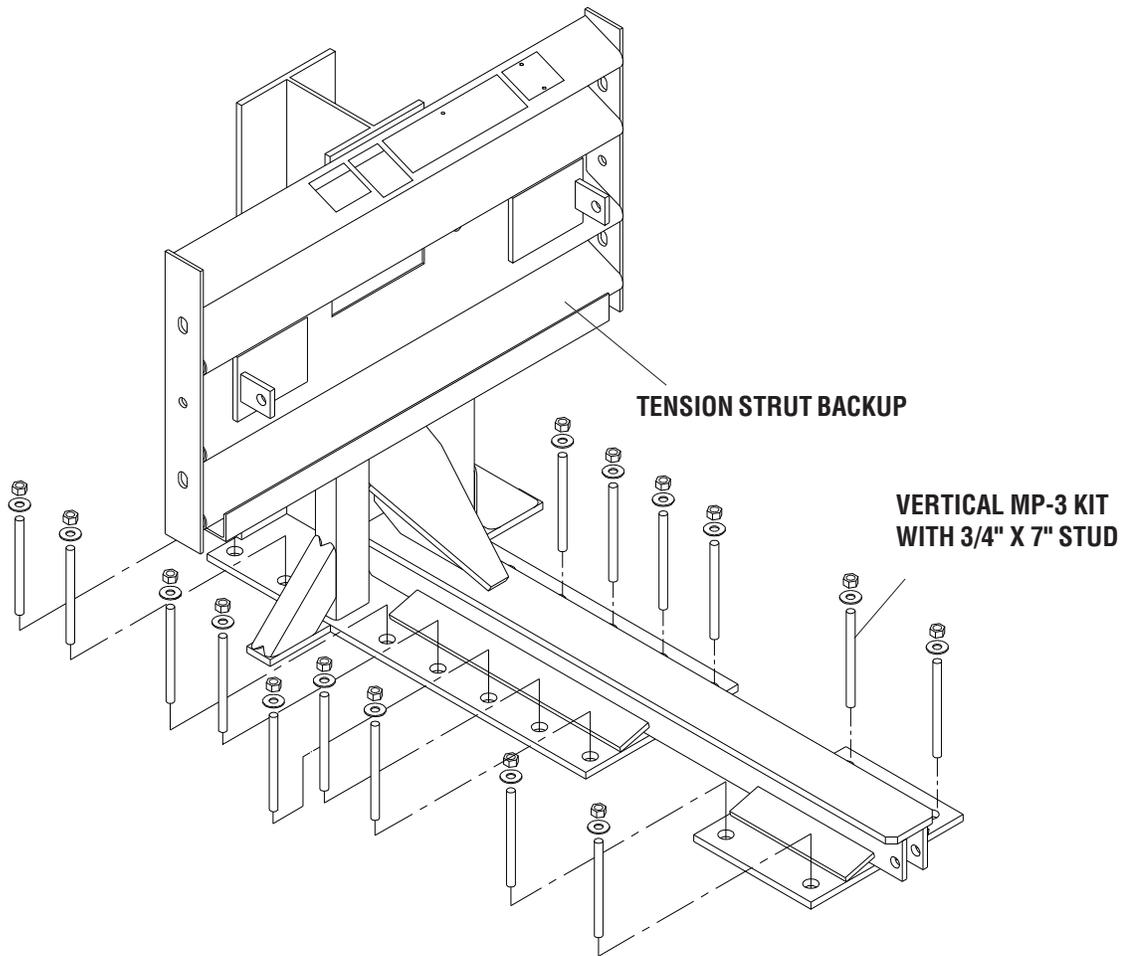
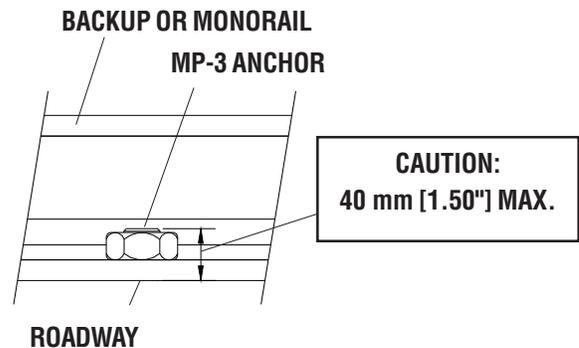

Figure 13
Figure 14
Refer to Figure 13 (showing backup assembly) and Figure 14 (showing monorail installation). Also refer to the drawing package, and the MP-3® Polyester Anchoring System Instructions included with this manual.
A) Tension Strut Backup Installation (Figure 13)